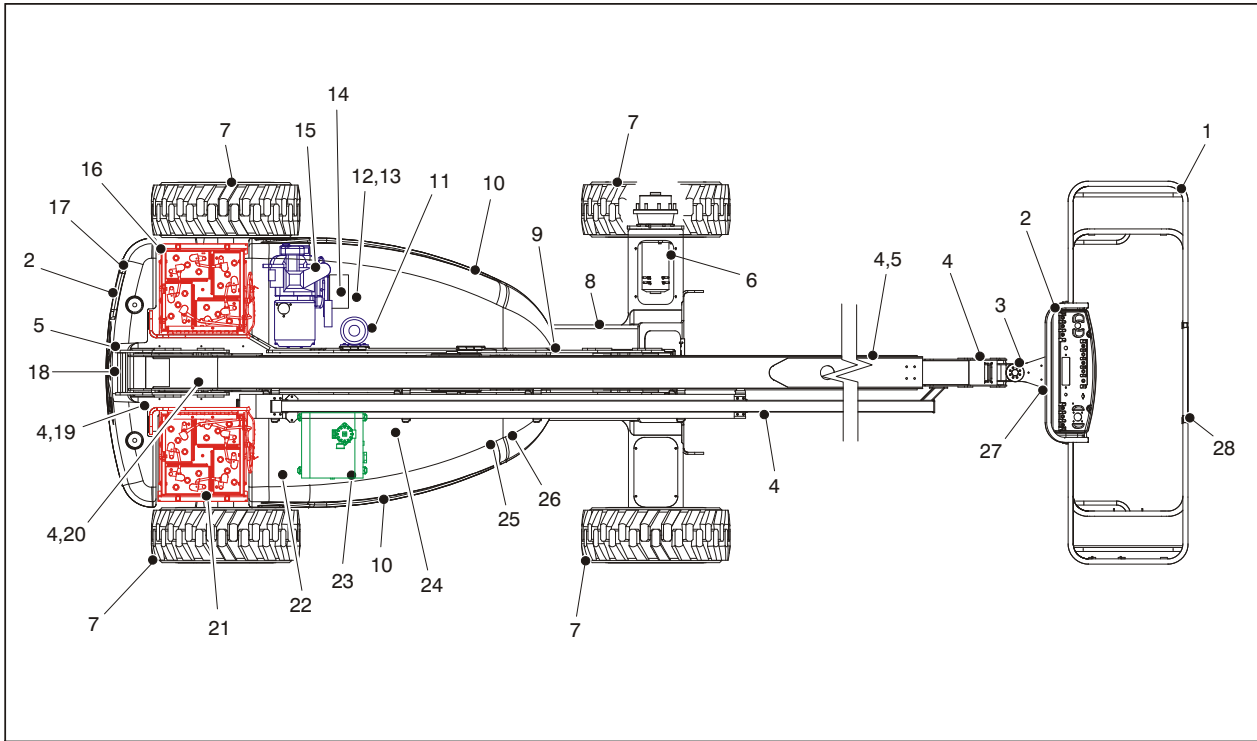
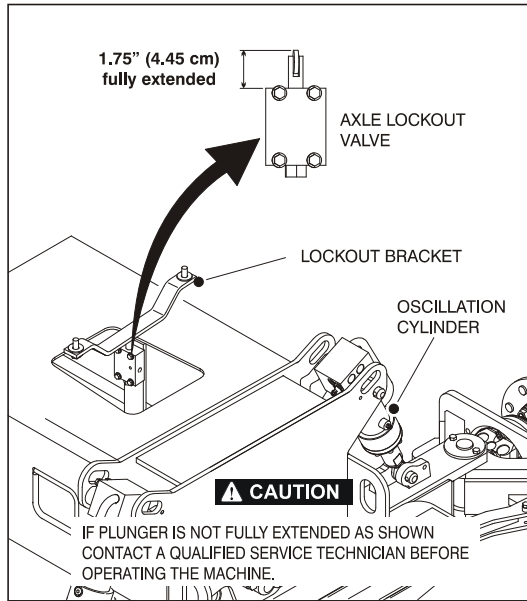

Figure 2-4. Daily Walk-Around Inspection - Sheet 1 of 4
Figure 2-7. Daily Walk-Around Inspection - Sheet 4 of 4
4. **“Walk-Around” Inspection** – Refer to Figure 2-4., Figure 2-5., and Figure 2-7.